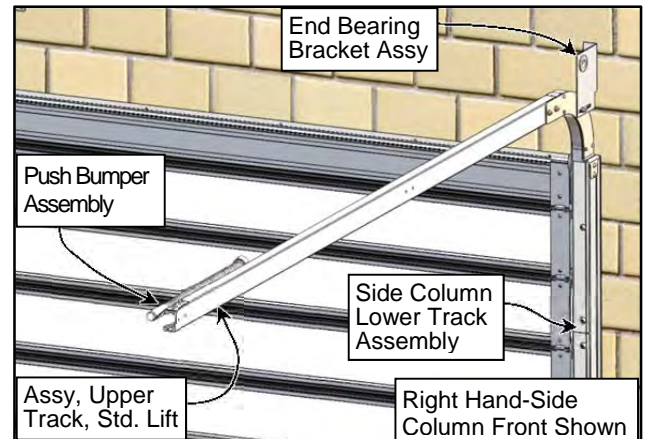
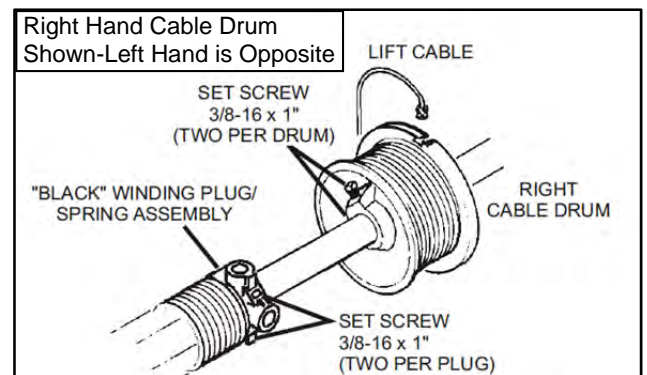
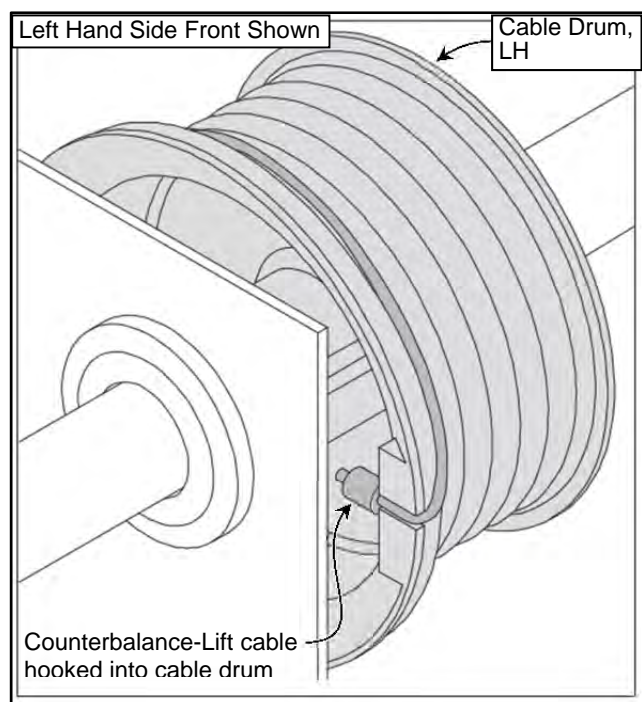

Figure 36
Figure 37
Figure 38
2. Confirm that all the counterbalance-drive shaft & related assembly components are positioned correctly & securely mounted per the "DOOR PANEL ASSEMBLY", "DRIVE SHAFT ASSEMBLY", "DRIVE CABLE TO DRUM INSTALLATION" & "UPPER TRACK ASSEMBLY" sections from the Spiral VP Balanced Drive (SVP-B) Installation Manual. (See Figure 22, Figure 29, Figure 36, Figure 37, and Figure 38)